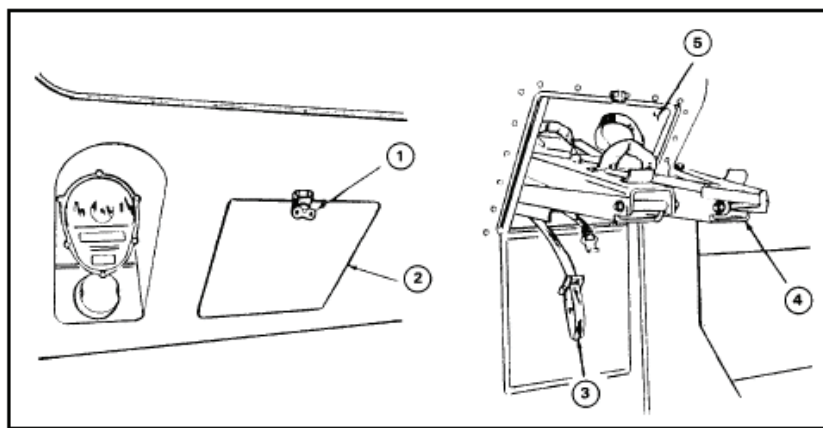

Figure 3-42. Assemble litter rail
- (1) Assemble litter rail extension for M996. Refer to Figures 3-42 and 3-43.